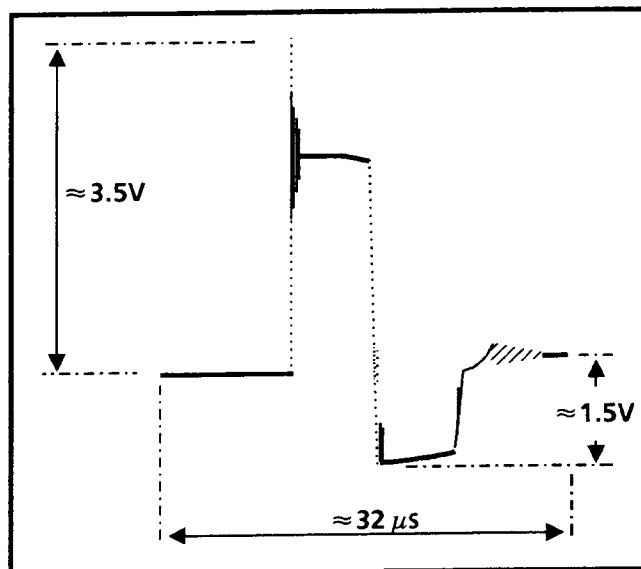

Fig. 6-6. Power supply base drive waveform.
14. **Check Base Drive:** Connect the test oscilloscope Channel 1 Vertical Input probe to the front end of R466 (15Ω) and the Channel 2 Vertical Input probe to the back end of R466. Invert Channel 2 and switch Vertical Mode to Add. Set the Variac to 130V. Ground test oscilloscope Vertical Inputs and center the crt trace. Waveshape should have a period of $\approx 33 \mu\text{s}$ with a positive excursion of $\approx +3 \text{ V}$ (excluding overshoot) and a negative excursion of -1.5 V . See Fig. 6-6.